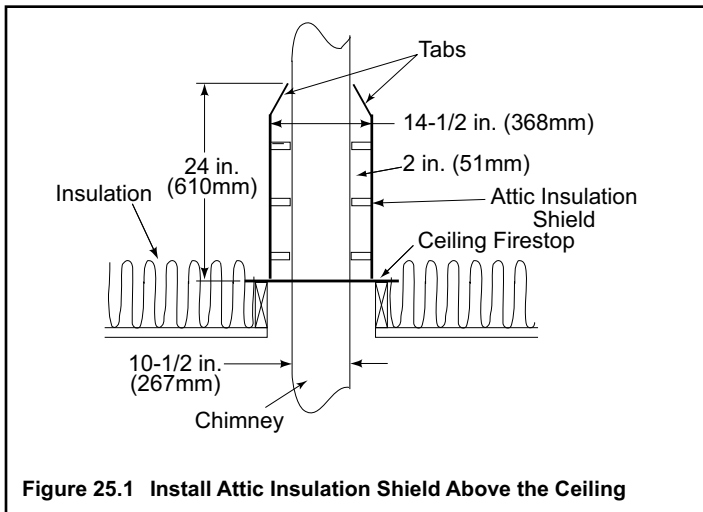

Figure 25.1 Install Attic Insulation Shield Above the Ceiling
**NOTE: See Figures 25.1 and 25.2 on page 25.**
- Slide the shield down until it rests on the ceiling firestop. The ceiling firestop will support the insulation shield. See Figures 25.1 and 25.2.